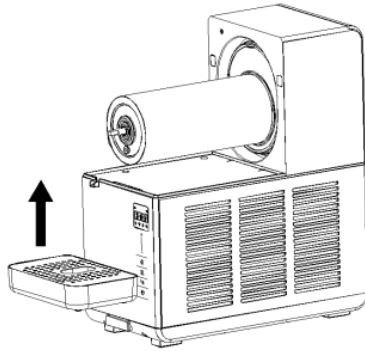

Fig.11
6. Remove the water tray upwards (as shown in Figure 11).